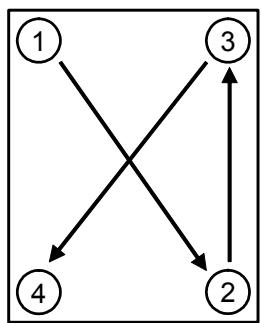

Fig.5-9 : Example of order which tighten bolts
- 4) Confirm that packing is stuck correctly and install the cover. When tightening the bolts fixing the cover, avoid tightening them to a specified torque at a time. Tighten the bolt in the order shown as much as possible in the "Fig. 5-9 Example of order which tighten bolts" The torque which tightens the fixing bolt of each cover is shown in "Table 5-3 : Cover fixing screw list".